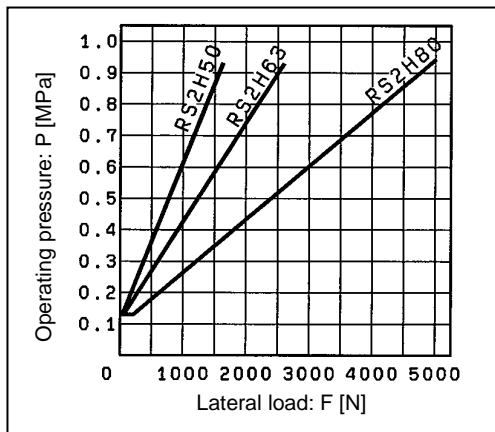

Figure-2-1. Lateral load and operating pressure
$F=776$ (N) at $P=0.5$ (MPa) is found on Figure-2-1.